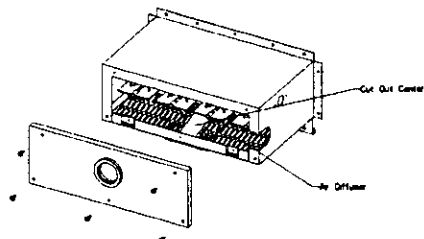

Fig. 20 – Removing Center Section of Air Diffuser
- e. • Remove center solid portion of air diffuser. (See Fig. 20) Use tin snips to cut center portion of air diffuser. Do not overly distort air diffuser. The air diffuser is Tog-L-Locked to burner box.